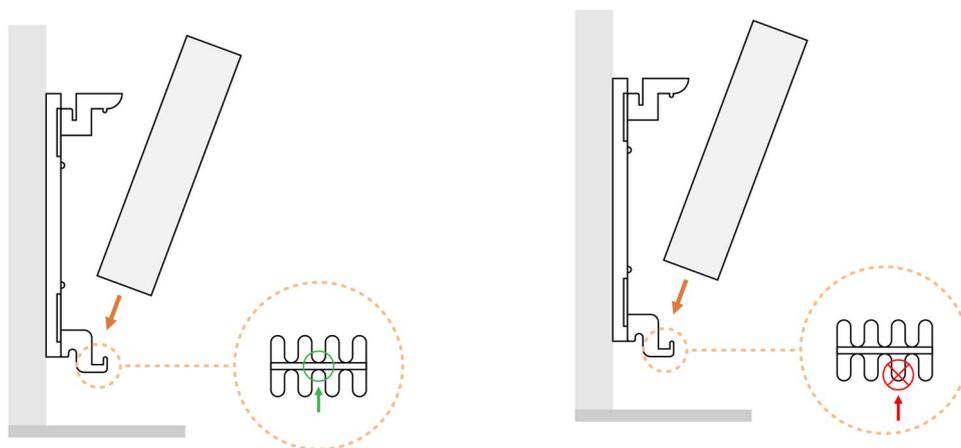

Figure 7 | Slotting the radiator in place. Left: correct hook location. Right: incorrect hook location.
9. Slot the bottom of the heater onto the hooks so that the hook fits between the ribs on the front and back of the heater (**Figure 7**). Do not hook onto the ribs alone.